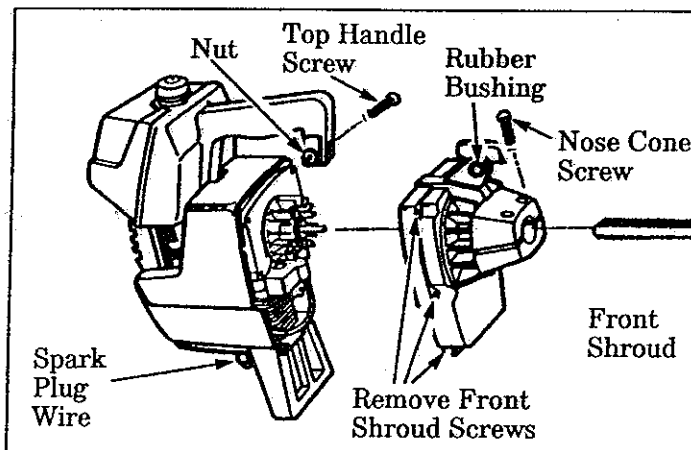

Figure 24
1. Disconnect Spark Plug Wire. Figure 24 .
2. Loosen the two "Nose Cone" Screws and remove Drive Shaft Housing from the Front Shroud. Figure 24 .
3. Remove the six Front Shroud Screws with the small hex wrench provided. Figure 24 .
4. Remove the Top Handle Screw and Nut, and remove the Steel Spacer from the Rubber Bushing on the Handle Mount. Figure 24 .
5. Separate the Front Shroud from the Engine. Figure 24 .